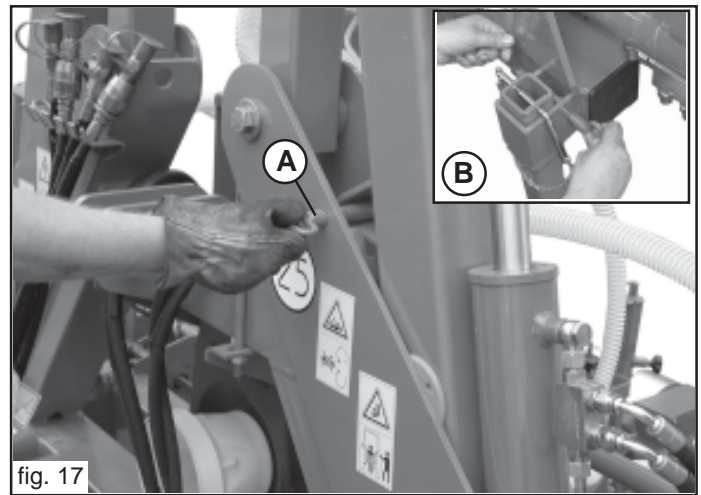

fig. 17
- 4) Unhook the safety pins on the frame (A Fig. 17) and place them in their relative seats (B Fig. 17).
- 8) Hook the frame safety pins into their relative seats (A Fig. 17).